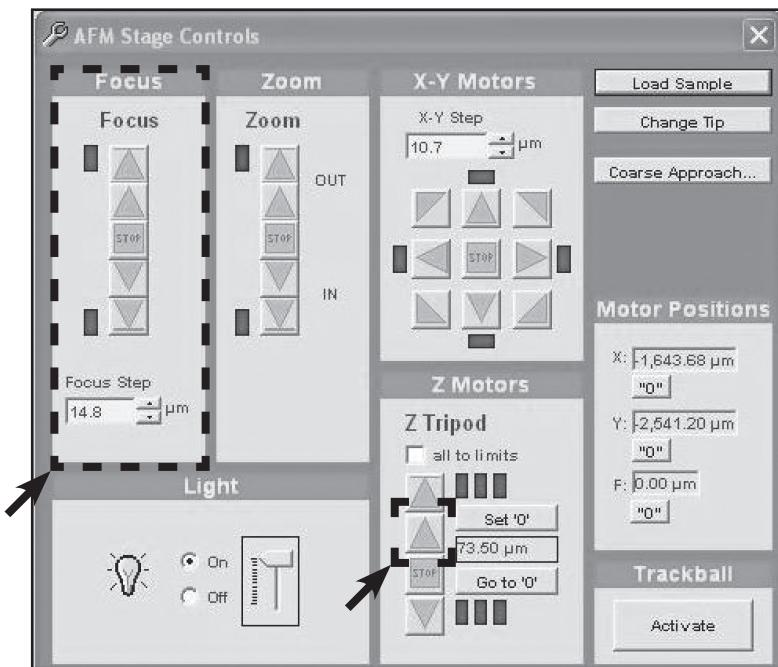

Figure 4.19: The AFM Stage Control window is used to raise the probe away from the sample
3. Click the Up button [Figure 4.19] to raise the Z motors until there is at least a few millimeters of clearance between the probe and the sample surface [or puck, if no sample is loaded].